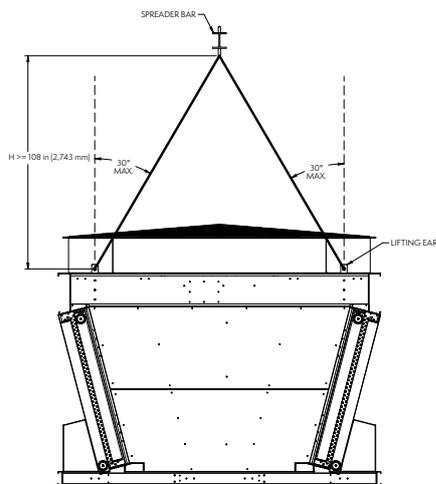
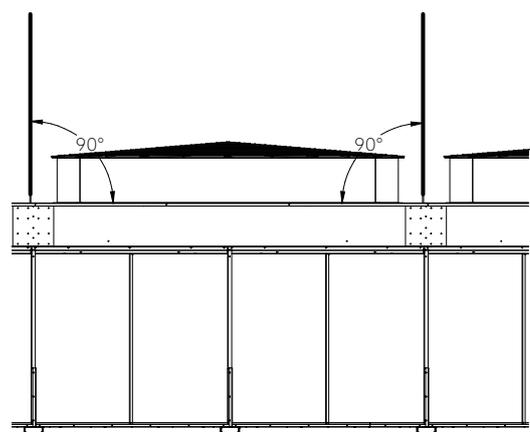

Figure 22.1 – Upper Section End Elevation View
Figure 22.2 – Upper Section Side Elevation View
2. Care must be taken to ensure that the 'H' dimension for the crane lift is greater than or equal to 9' (2.7 m) from the fan deck as shown in Figure 22.1. When viewed from the side, the lifting angle must **ALWAYS** be 90 degrees (perpendicular) to the fan deck of the unit, see Figure 22.2. The width between the upper section lifting ears on the end elevation view is 9' 1-7/8" (2,790 mm).